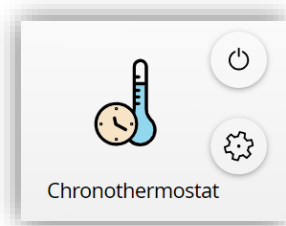

Figure 119. Chronothermostat box
- **Enablement** [0 = Disable; 1 = Enable / 0 = Enable; 1 = Disable]: selects the polarity of the control object “[Ci] Chronothermostat: Enable”, which will enable or disable the chronothermostat analogously as from the on-screen switch button of the box (see Figure 119). The box configured as a chronothermostat control looks as follows: